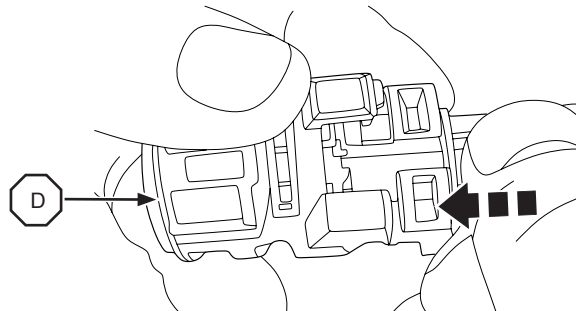

FIGURE 8
9. Insert the cylinder/sleeve into the Housing (D) until stop (Refer to Figure 8). IMPORTANT: Push the sleeve walls, don't push the cylinder otherwise the tumblers will fall out.